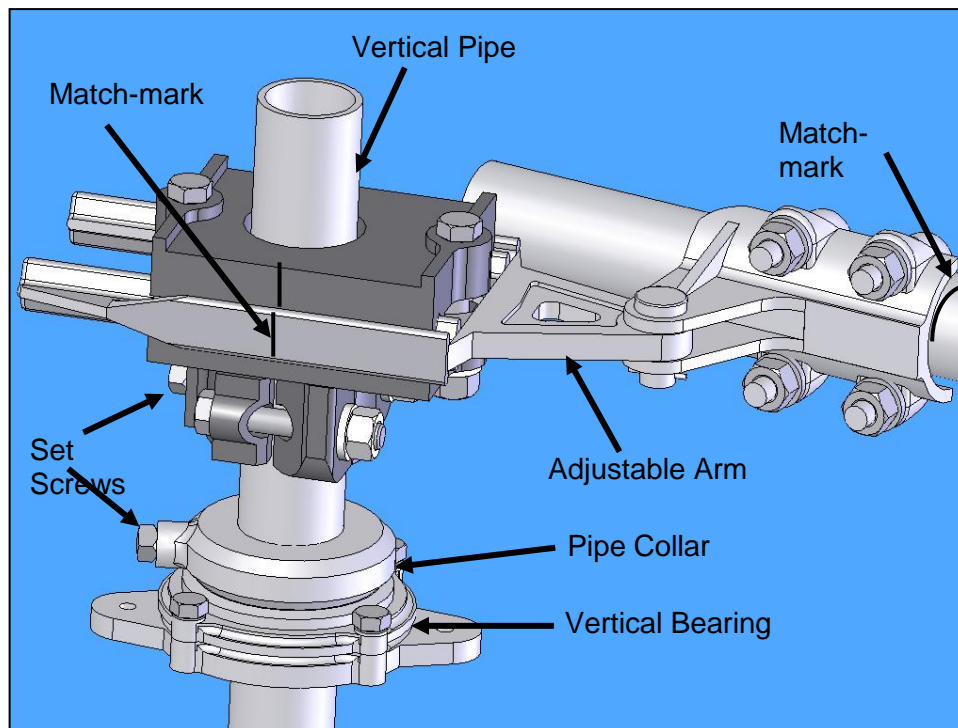
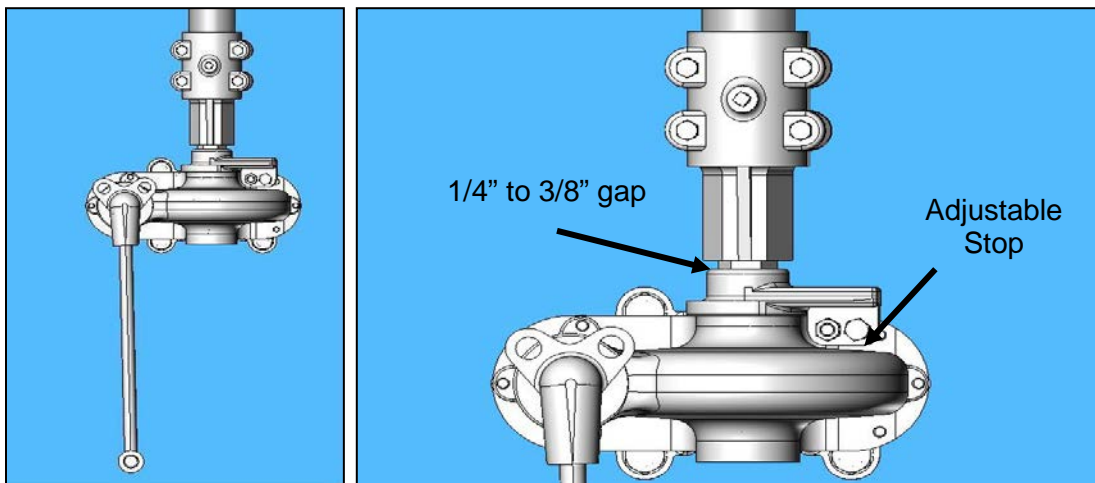

Figure 10: Typical Operating Arrangement
Figure 11: Type HOGO (High Output Geared Operator) Front View
4. Refer to the Operating Mechanism drawing, and install all mounting brackets, bearings, bushings, pipe clevises, switch operating device, adjustable arm, reach rod, and other necessary components. Refer to **Figure 10**.
⚠ CAUTION The pipe collar (above the vertical bearing) must support the entire weight of the vertical operating pipe. To prevent unnecessary component damage, **do not allow the pipe to rest on the switch operating device**. Refer to **Figure 10**.
6. After mounting all op-mech components, match-mark all clevis connections, the adjustable arm, and the switch operating devices' coupling, so that any slippage occurring during trial operations can be readily detected. Refer to **Figure 10**.
- 2.1.1. HOGO – (High Output Geared Operator) (Optional) The weight of the vertical operating pipe should be supported by pipe collar (**Figure 10**) by maintaining the 1/4" - 3/8" gap (**Figure 11**). When the switch is properly adjusted the operator handle should hang freely in both the open and closed positions to permit the use of a customer supplied padlock. Refer to **Figure 11**.
to reposition itself the same 1/4". Refer to **Figure 10**. Test operation and readjust as necessary.
- 4.4. If the switch is fully open before the operator reaches the fully open position, the adjustable arm radius is too long. Close the switch, match-mark the adjustable arm and the pipe clevis, and loosen the bolts on the adjustable arm and pipe clevis. **Shorten the adjustable radius arm approximately 1/4"**. **Allow the pipe clevis to reposition itself the same 1/4"**. Refer to **Figure 10** **Figure 11**. Test operation and readjust as necessary.